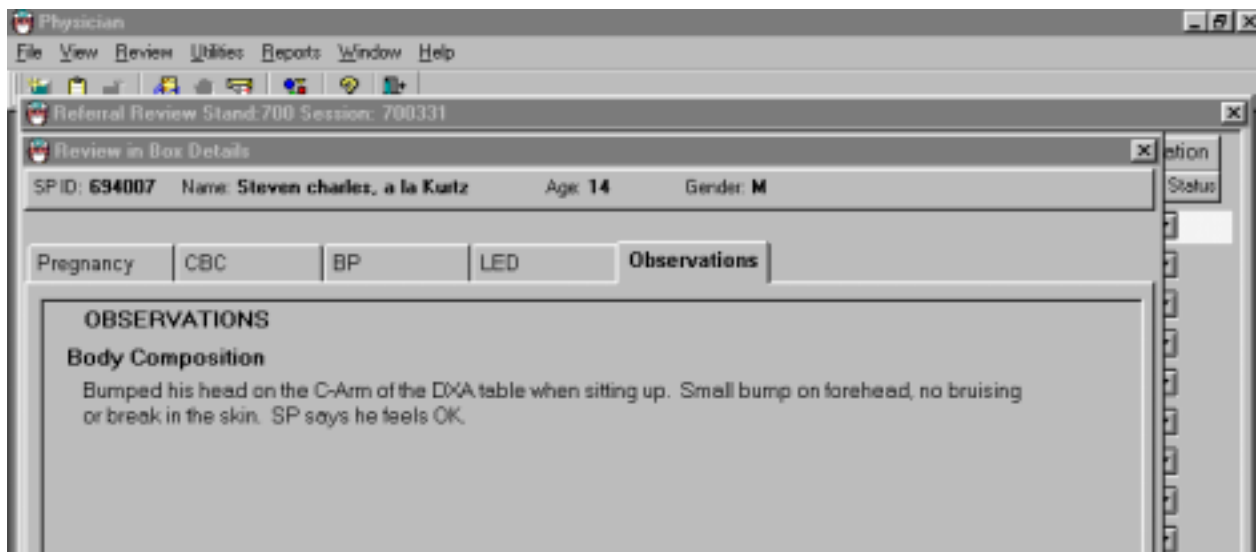

Figure 5-4. Observation referral from other components in physician's referral review box
- Figure 5-4 shows the referral as it appears in the Physician's Referral Review box. The message typed in the Observation Referral box in Body Composition appears in this box in the Physician Referral Review.